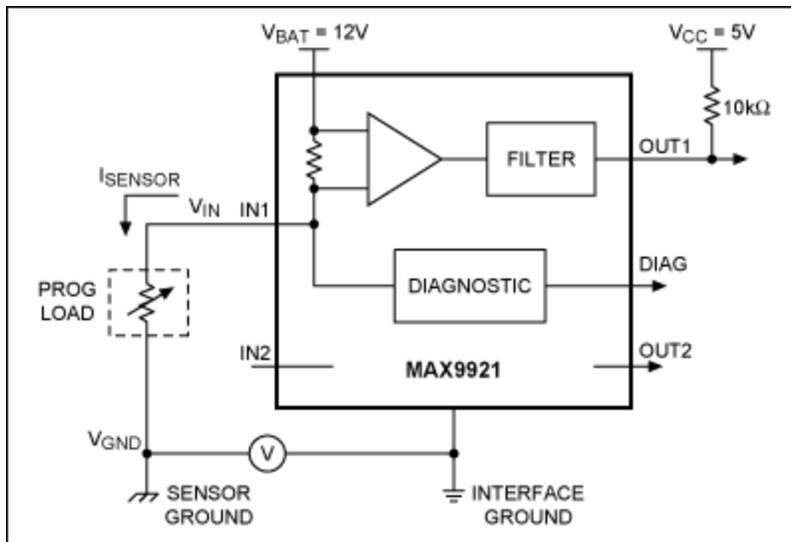
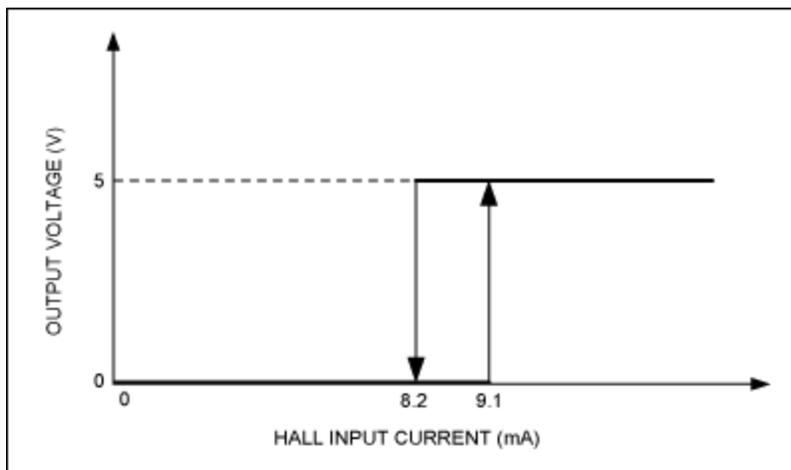

Figure 2. A circuit used for testing the MAX9921's immunity to ground shifts is shown.
Figure 3. The MAX9921's current thresholds and hysteresis are shown.
**Figure 2** presents a circuit used for testing the MAX9921's immunity to ground shifts. Instead of a Hall-effect sensor, the circuit employs a programmable load, which functions as a current sink where the current can be programmed in several ranges, with a resolution of 0.1% of the selected full-scale value. A 10mA full-scale value was chosen for this experiment, with resolution down to 10µA. As **Figure 3** demonstrates, the MAX9921 exhibits current thresholds with hysteresis just less than 1mA to ensure reliable operation in harsh or noisy environments.